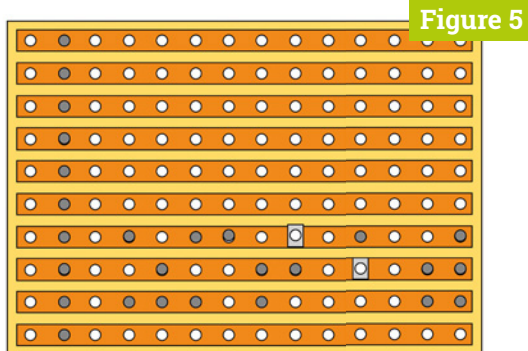

Figure 5
We used a piece of 14 hole, by 10 row, stripboard and a single pin header row. This plugs into our ADC (see issue 68, page 42 – magpi.cc/68), component side down. The components were wired up as in **Figure 5**. Note that the track side shows where to cut the tracks and is flipped over right to left, just like you would see it. **Figure 6** shows a photograph of the conditioning circuit. The band on the diode marks the cathode, and the strip down the capacitor marks the negative wire. Make sure you get them the right way round.
- ▶ **Figure 5** Physical layout of the signal-conditioning interface